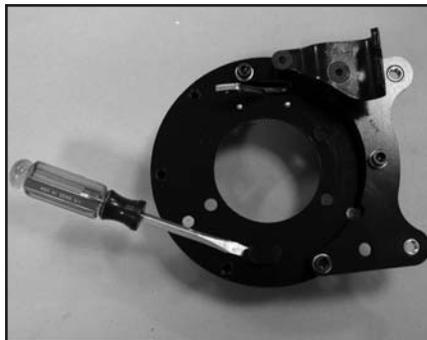

Figure 15
- Adjust the internal parking brake shoes by removing the dust cover from the inboard side of the backing plate, Figure 15.